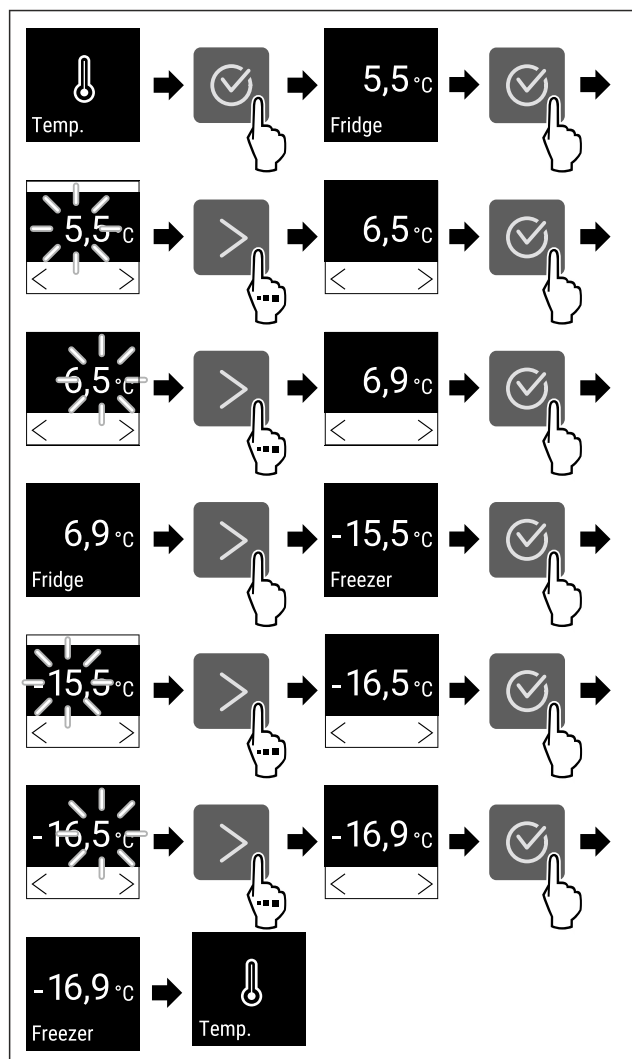

Fig. 88 Changing temperature from 5.5 °C to 6.9 °C and -15.5 °C to -16.9 °C
- ▶ Carry out steps (see Fig. 88).